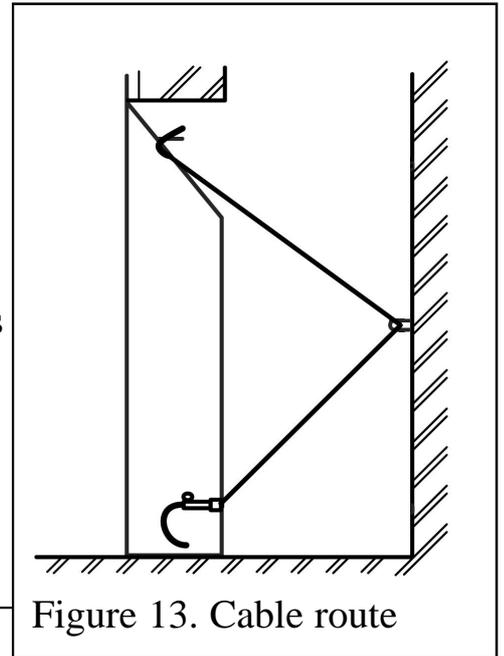

Figure 13. Cable route
**6.** Thread the cables through the eyebolts in the rear wall. Return the cables through the holes near the bottom corners of the convection box back panel (See figure 13).